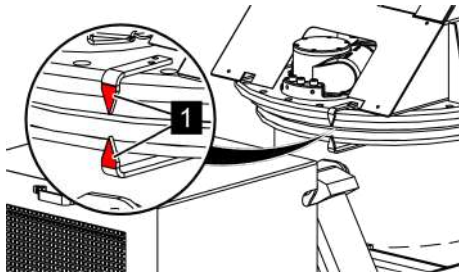

Fig. 95: Red arrows
4. ➤ Swivel the platform in the direction of transport position (☞ Chapter 6.8 'Operating the machine' on page 100) until both red arrows (Fig. 95/1) meet.